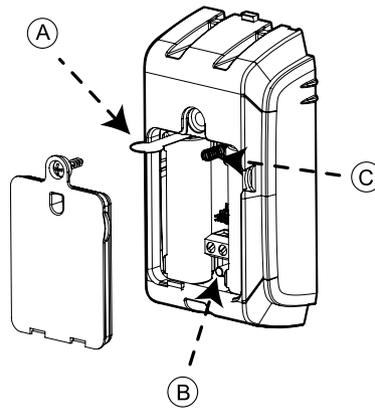

Figure 2: Enrollment options
3. Remove the pull tab to start the auto-enrollment process. See A in Figure 2.
Note: If the device does not automatically enroll, you can either press the enrollment button, press the tamper restore, or enter the device identification number in the panel. See B in Figure 2 for the enrollment button and C in Figure 2 for the tamper restore.
2. Press the tamper switch once and release it. See callout C, Figure 2.